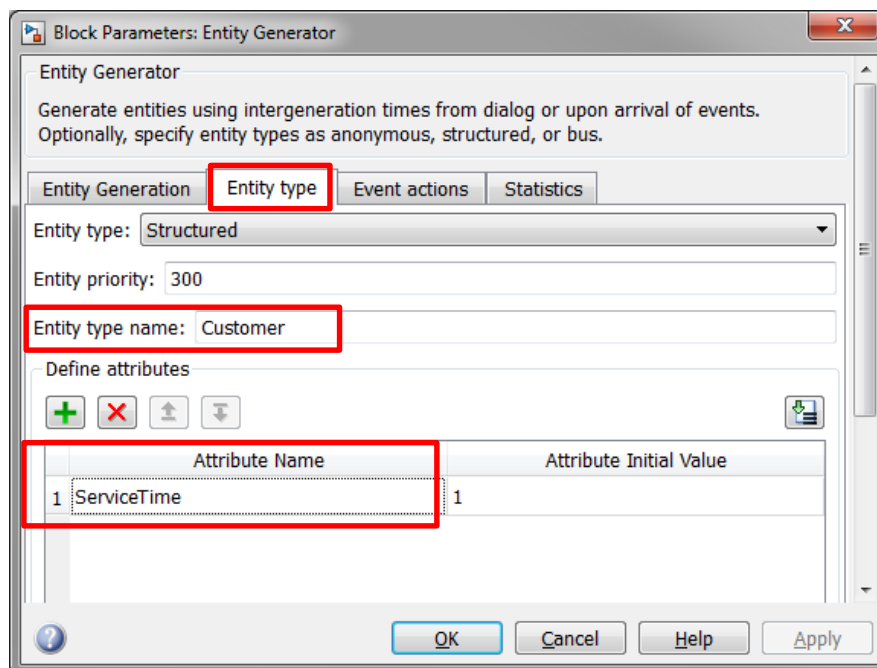

Figure 11: Define the Entity Type and Attributes
1. Double click on the Entity Generator block and select the “Entity Type” tab. Make the changes as shown in Figure 11.